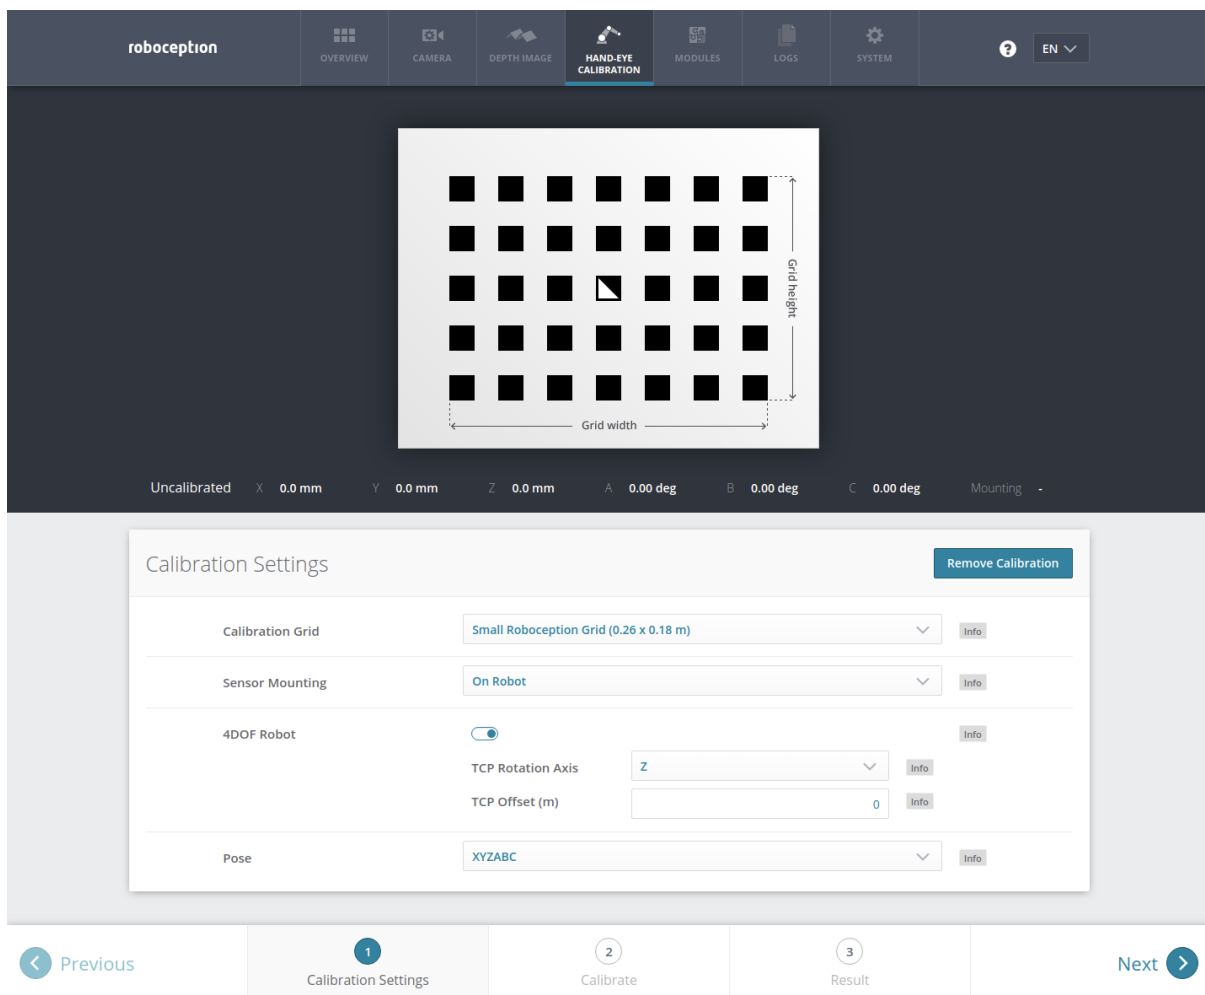

Fig. 5.10: Defining hand-eye calibration settings via the *rc\_cube*'s Web GUI
**Web GUI example:** The Web GUI offers an interface for entering these parameters during the first step of the calibration routine as shown in Fig. 5.10. In addition to grid size and camera mounting, the Web GUI also offers settings for calibrating 4DOF robots. In this case, the rotation axis, as well as the offset from the TCP to the camera coordinate system (robot-mounted camera) or grid surface (statically mounted camera) must be given. Finally, the pose format can be chosen, which is used for setting poses in the upcoming step 2 of the calibration process. It can be set to either *XYZABC* for positions and Euler angles, or *XYZ+quaternion* for positions plus quaternions for representing rotations. See *Pose formats* (Section 11.1) for the exact definitions.